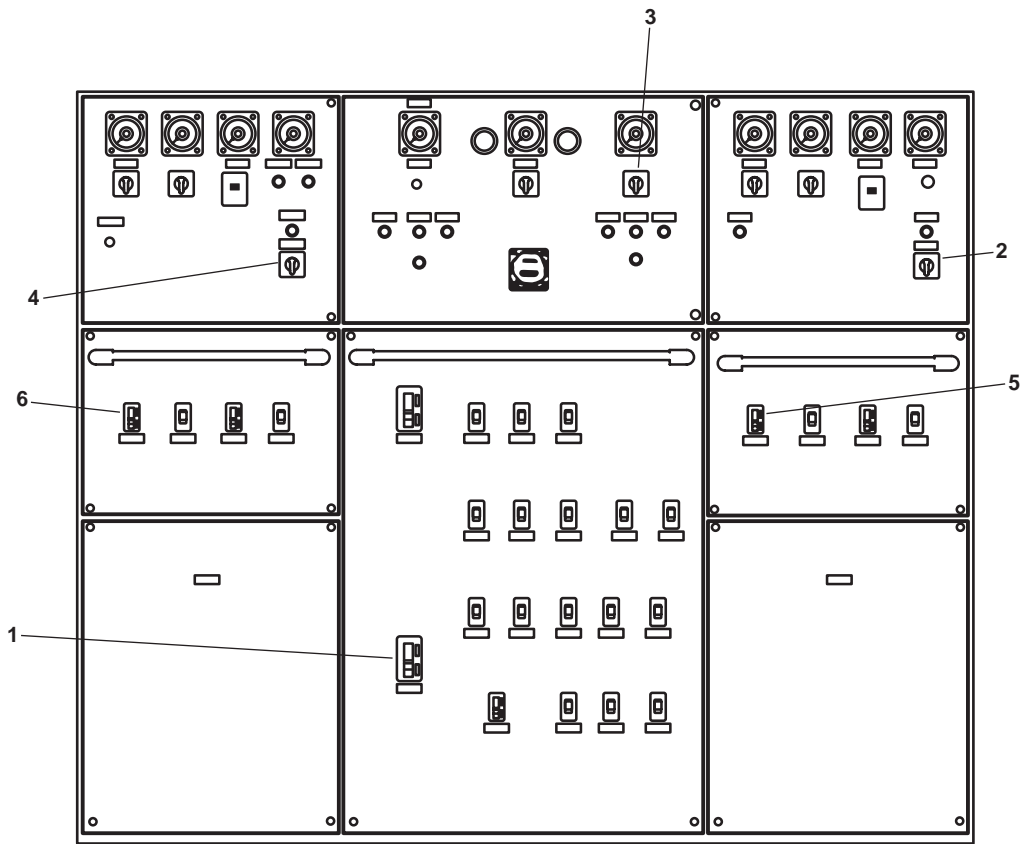
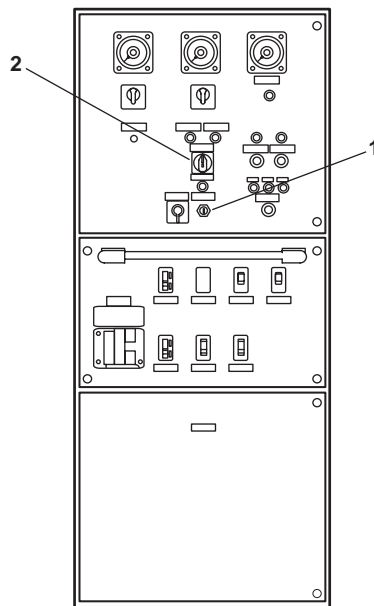

Figure 1. Main Switchboard
Figure 2. Emergency Switchboard
- b. Set the BUS TIE CKT. BKR. (figure 1, item 1) on the lower center panel of the main switchboard to OFF.
- c. Set the BUS TIE BKR FEEDBACK switch (figure 2, item 1) on the top panel of the emergency switchboard to NORMAL.
GEN. 1 CKT BKR (figure 1, item 2)	SHORE POWER Circuit Breaker (figure 1, item 3)
GEN. 2 CKT BKR (figure 1, item 4)	SHORE POWER Circuit Breaker (figure 1, item 3)
SHORE POWER Circuit Breaker (figure 1, item 3)	GEN. 1 CKT BKR (figure 1, item 2)
SHORE POWER Circuit Breaker (figure 1, item 3)	GEN. 2 CKT BKR (figure 1, item 4)
BUS TIE CKT. BKR. (figure 1, item 1)	EMG GENERATOR CIRCUIT BREAKER (figure 2, item 2)
EMG. GEN. SWBD BUS TIE #1 (figure 1, item 5)	EMG. GEN. SWBD BUS TIE #2 (figure 1, item 6)
EMG. GEN. SWBD BUS TIE #2 (figure 1, item 6)	EMG. GEN. SWBD BUS TIE #1 (figure 1, item 5)
- b. BUS TIE BKR FEEDBACK switch (figure 2, item 1) on the top panel of the emergency switchboard to NORMAL.
EMG GENERATOR CIRCUIT BREAKER (figure 2, item 2)	BUS TIE CKT. BKR. (figure 1, item 1)
- b. Set the BUS TIE BKR FEEDBACK switch (figure 2, item 1) switch on the top panel of the emergency switchboard to FEEDBACK.